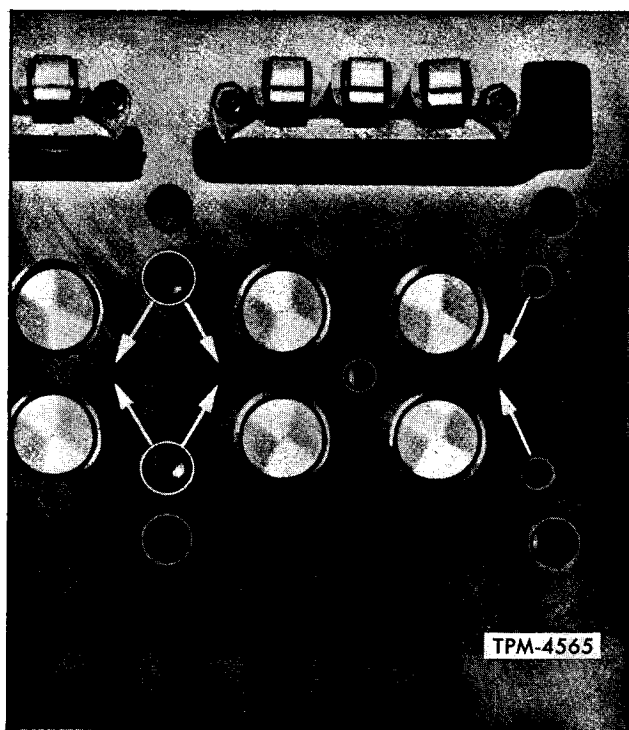
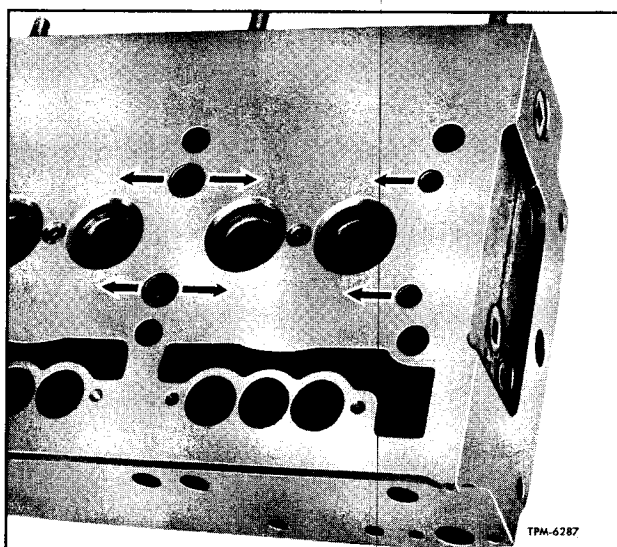

Figure 85—Cylinder Head Water Nozzle Installation (4-Valve Head)
Figure 86—Cylinder Head Water Nozzle Installation (2-Valve Head)
4. On two valve heads, press nozzles into place with their openings parallel with the center line of engine (fig. 86). On four-valve heads, press the nozzles into heads so that openings are directed diagonally across the head. Refer to figure 85.